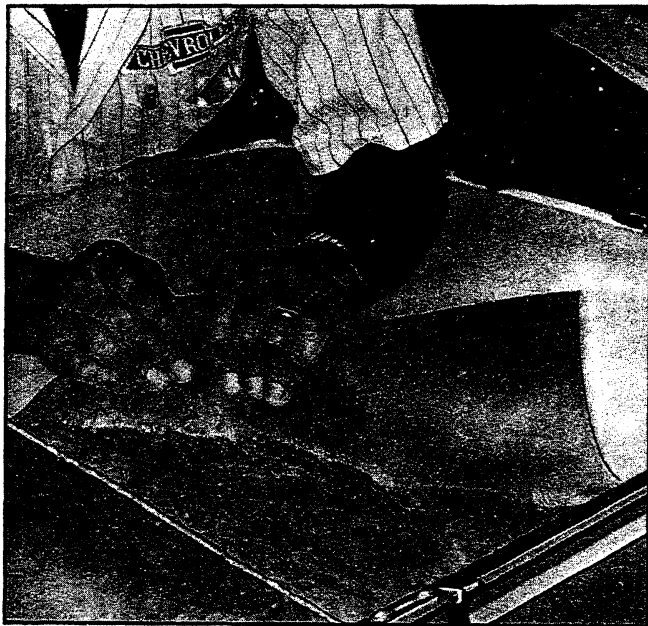

Fig. 95—Removing Headlining
2. Pull damaged headlining from top (fig. 95).